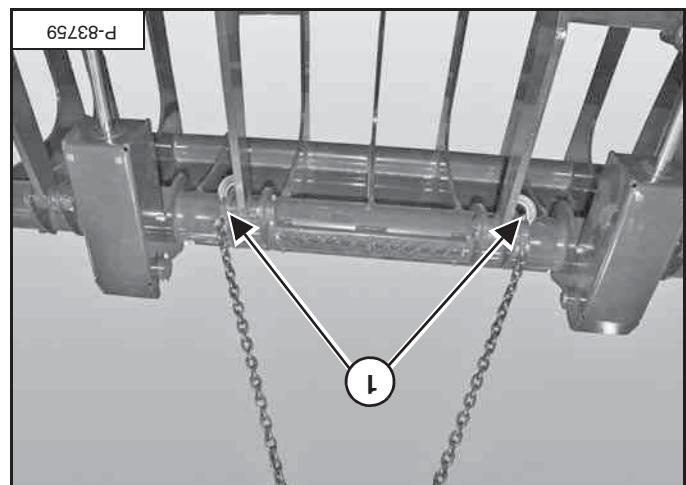
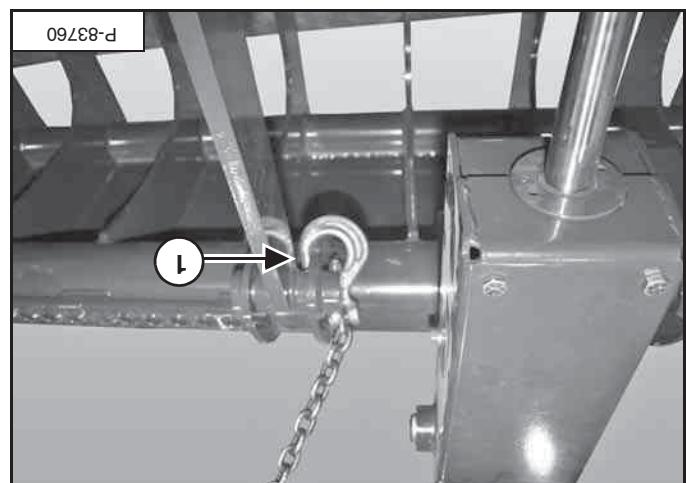

Figure 88
Figure 89
Fasten chains (item 1) [Figure 88] and [Figure 89] to the frame.